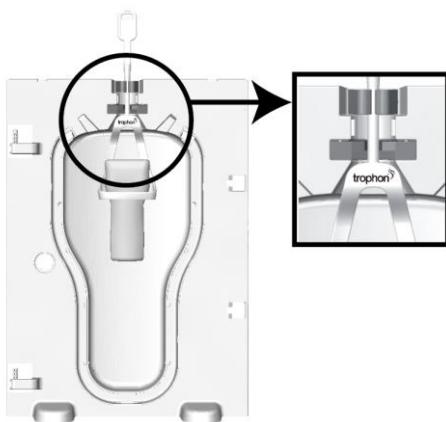
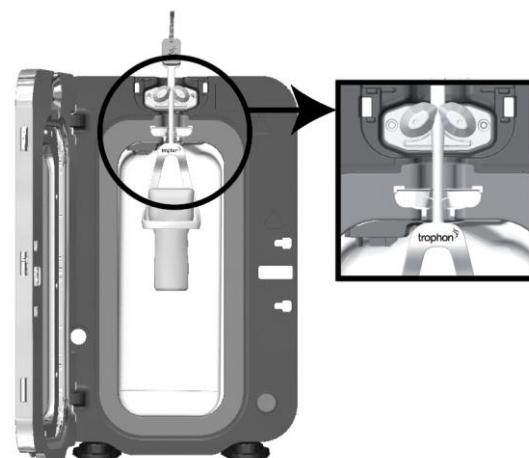

Figure 4
Figure 5
- **WUPH-A** The trophon Wireless Ultrasound Probe Holder-A (WUPH-A) holds a compatible wireless ultrasound probe in the trophon chamber. It is suitable for use with both trophon EPR and trophon2 devices (see Figure 4 and Figure 5 respectively).